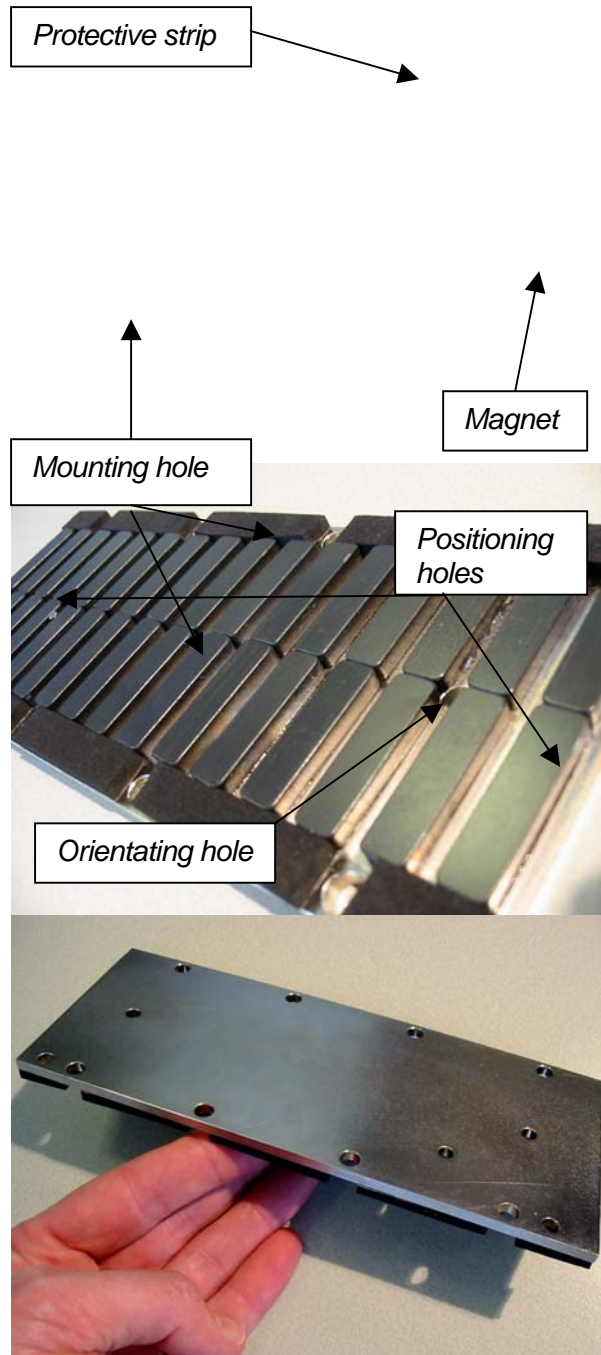
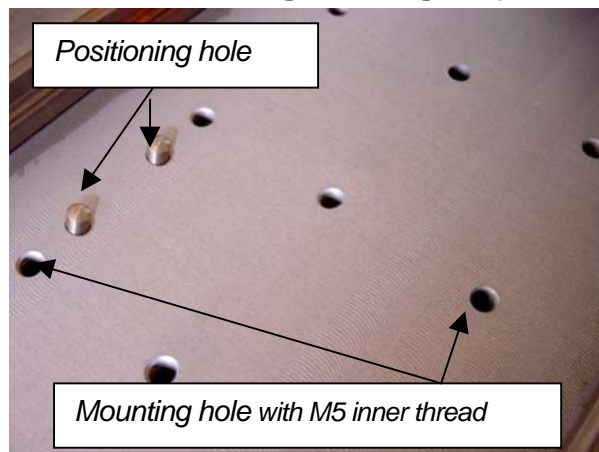

Figure 9: Magnet plate, details
Figure 10: Mounting frame, detail
2. Apply dowel pins for the positioning holes in the mounting frame (see Figure 10: Mounting frame, detail). Choose the holes according to the position of the accurate $\varnothing 5$ positioning holes in the magnet plate (see Figure 9: Magnet plate, details)